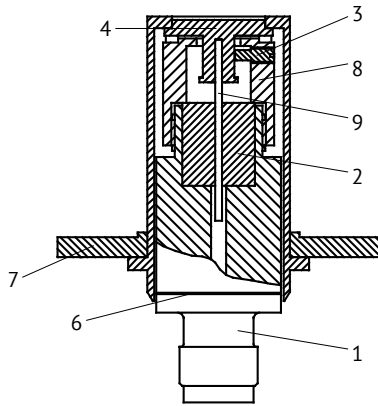

Fig. 6. PSA for MP-60, MP-100, MP-250, MP-400 and MP-600:
7.1.8 Depending on measurement range, it is required to place the bell (Fig. 6) or adapter aluminium plate. In the case MII-6 the weights are fitted directly on receptacle irrespective of developed pressure.